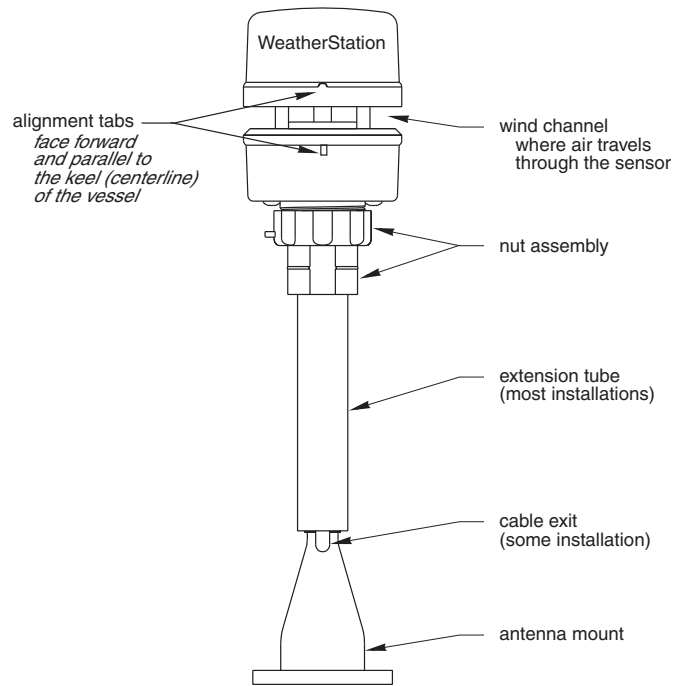
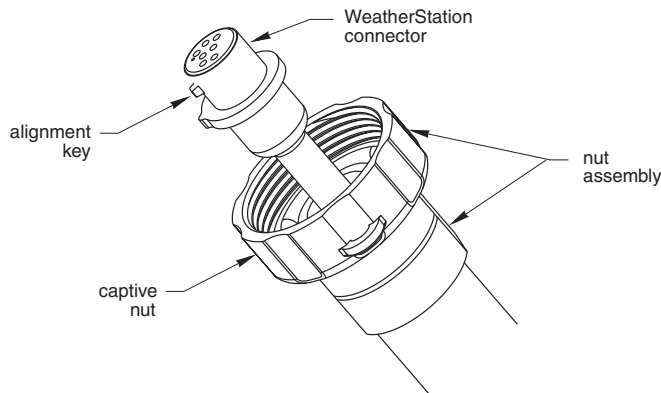

Figure 4. Installation
Figure 5. Connector
2. Position the antenna mount at a 90° angle to the deck. If necessary, use shims to make the mounting surface level (see Figure 4).
6. With the nut assembly on the cable near the WeatherStation connector, thread the cable through the extension tube (if used), antenna mount, and the cable exit. Allow several inches of cable topped by the connector above the nut assembly (see Figure 5).
9. *Be sure* the alignment tabs on the WeatherStation are facing forward and parallel to the keel (centerline) of the boat (see Figure 4). Slide the captive nut upward and screw it onto the base of the WeatherStation (see Figure 5). **Hand-tighten only.** Do not over tighten. *Be careful NOT* to rotate the WeatherStation or loosen the nut assembly from the antenna mount/extension tube. *Double check to be sure* the alignment tabs are still facing forward.